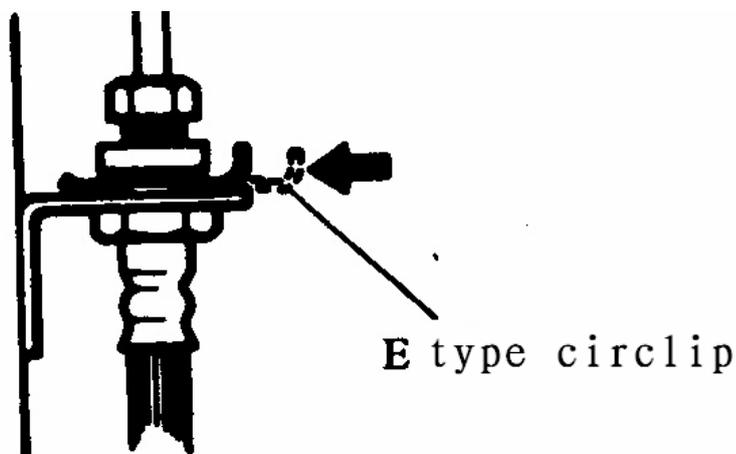

FIG.16-66
- Be sure to install E-clip in brake hose groove. (FIG.16-66)